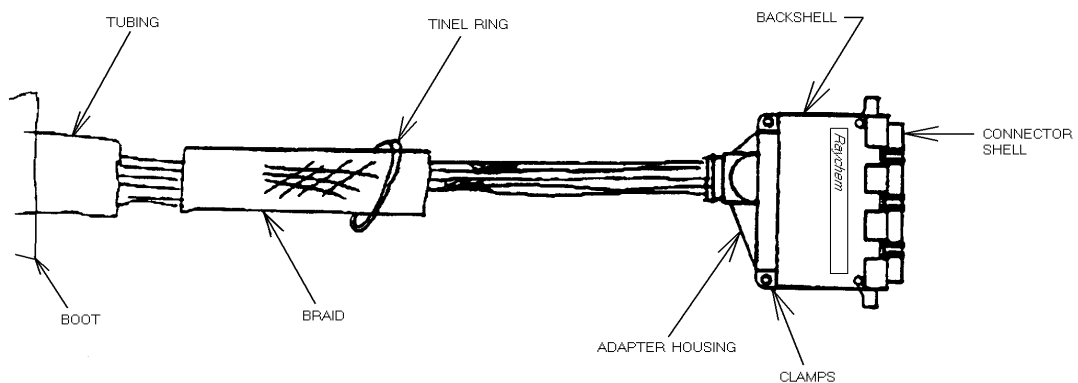

Figure 5-11. Adapter Housing Clamped at Rear of Backshell.
2. Slide the adapter housing to the rear of the backshell and install the clamps (Figure 5-11).